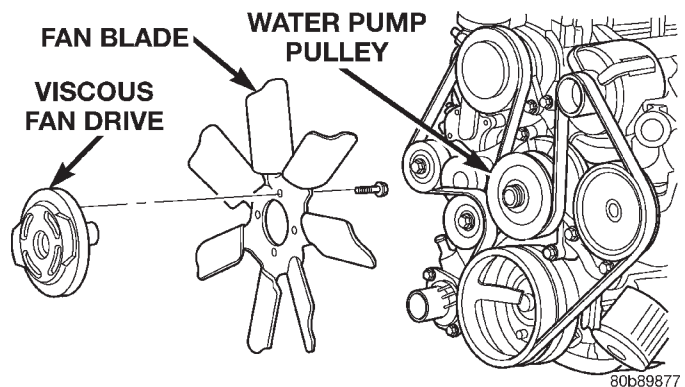
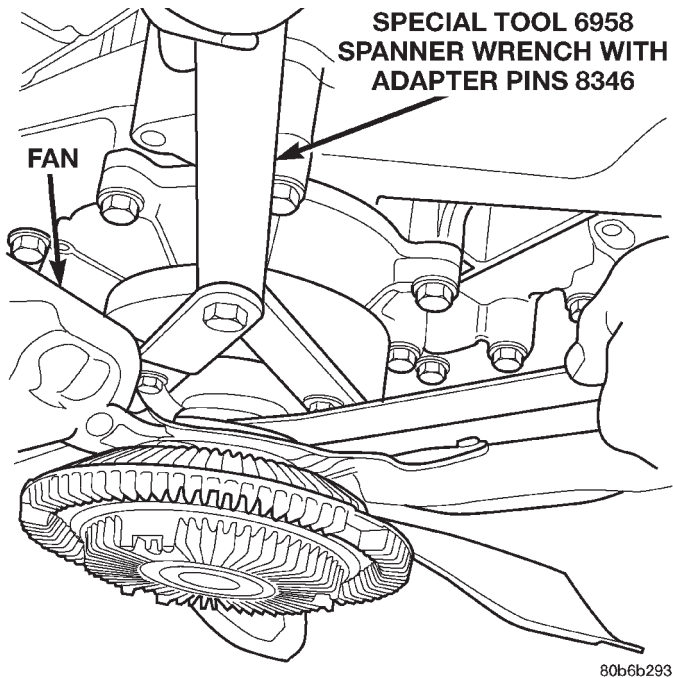

Fig. 61 Fan Blade/Viscous Fan Drive—4.7L V-8 Engines
Fig. 62 Fan Blade and Drive—Removal
(2) The thermal viscous fan drive/fan blade assembly is attached (threaded) to water pump hub shaft (Fig. 61). Remove fan blade/viscous fan drive assembly from water pump by turning mounting nut counterclockwise as viewed from front. Threads on viscous fan drive are **RIGHT HAND**. Using spanner wrench 6958 with adapter pins 8346 (4.7L engine only) and a suitable fan wrench loosen the fan drive (Fig. 62).
(3) Do not attempt to remove fan/viscous fan drive assembly from vehicle at this time.
- (4) Install fan blade/viscous fan drive assembly to water pump shaft (Fig. 62).
- (5) Connect negative battery cable.